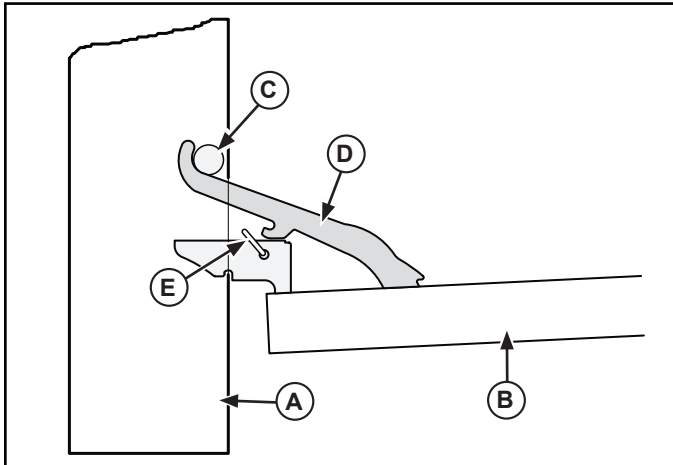

Figure 4. Oven Door and Hinge Lock (down or back position).
2. Open the door (B). See Figure 4.
3. Note the down or back position of hinge locks (E). Check that both sides are in this position.
10. Rotate the hinge lock (E) off the hinge arm (D) as shown. Repeat on both sides. See Figure 4.